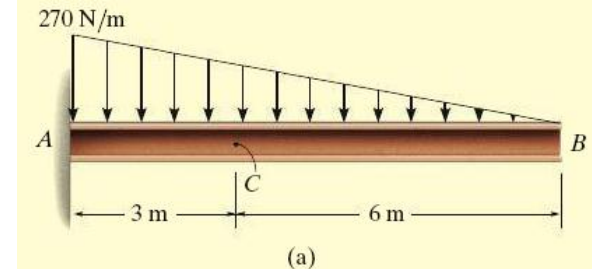

Fig. 1–4
✓ **External Loads.** A body is subjected to only two types of external loads; namely, surface forces and body forces, Fig. 1–1 .
**Ex1:-** Determine the resultant internal loadings acting on the cross section at *C* of the cantilevered beam shown in Fig. 1–4 *a*.
**Ex2:-** The **500-kg** engine is suspended from the crane boom in Fig. 1–5 *a*. Determine the resultant internal loadings acting on the cross section of the boom at point *E*.
**Free-Body Diagram.** The free-body diagram of segment  $AE$  is shown in Fig. 1–5  $c$ .